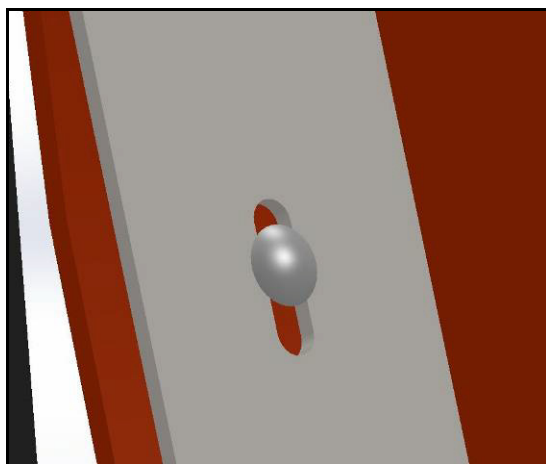

Figure 6.22 Wear Wrap - Housing
13. Using a flat bar and hammer, drive the flat end of the wear wrap in as far as possible to ensure that it fits snugly all the way around the rotor housing (see Figure 6.22). Insert a new 3/8" x 1-1/2" carriage bolt and secure with 3/8" whiznut.